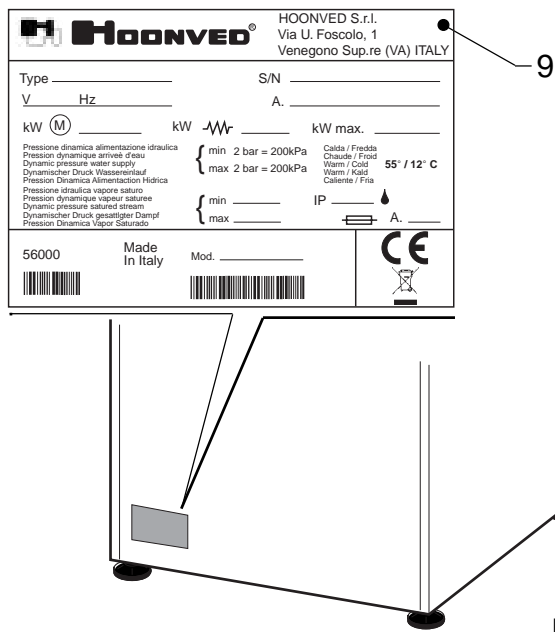

Fig. 5
- Before connecting to the electricity main, always check that the data pertaining to the power source correspond to those indicated on the identification plate (pos. 9 Fig. 5) and that the main electric power switch installed prior to the machine is disconnected "0" OFF.